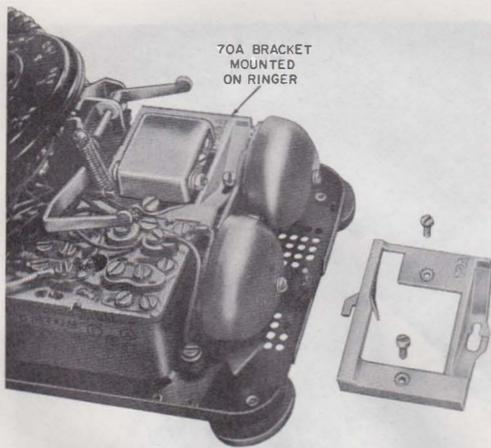

Fig. 16—70A Bracket
3.05 When mounting KS-8108, 9, and 10 type buzzers on a 70A bracket (Fig. 16) position the buzzer so that it will not interfere with the electrical or mechanical operation of the telephone set, and so the buzzer adjustment screw is accessible.